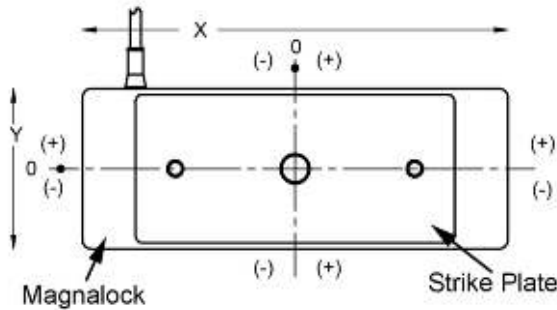

Figure 19. Magnalock and Strike Plate Alignment
**NOTE 1:**When installing the Magnalock and strike plate, each should be in proper alignment to the other (see Figure 19, “Magnalock and Strike Plate Alignment”). This is considered critical for the operation of both the BondSTAT and DPS. However, there are alignment tolerances for each model of Magnalock, but these should be viewed as the extreme—the installation desire is always total alignment.